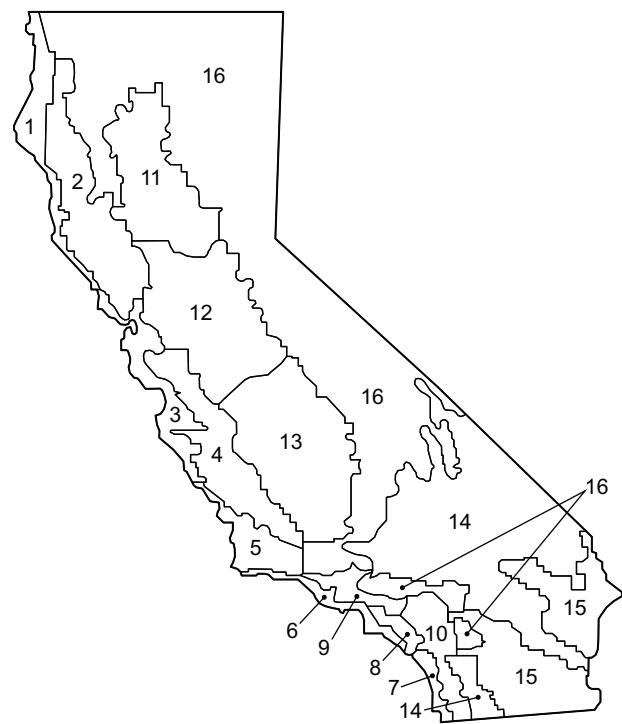

Fig. 72 — California Title 24 Zones
- See Fig. 72 for map of California Title 24 zones.